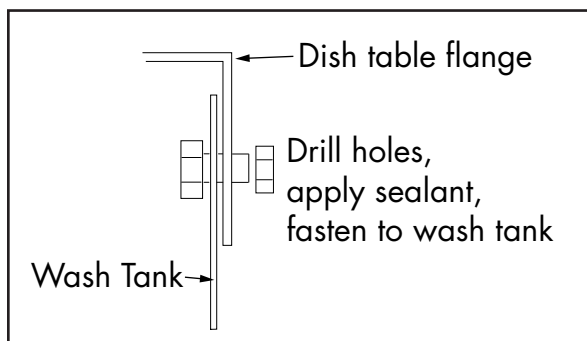

Fig. 5 - Table attachment
5. Set the tables inside the machine making sure the table flange fits against the wash tank wall. Use fasteners, (supplied by others), to attach tables to machine. Apply a bead of silicone sealant to the mating surfaces, (Fig. 5).